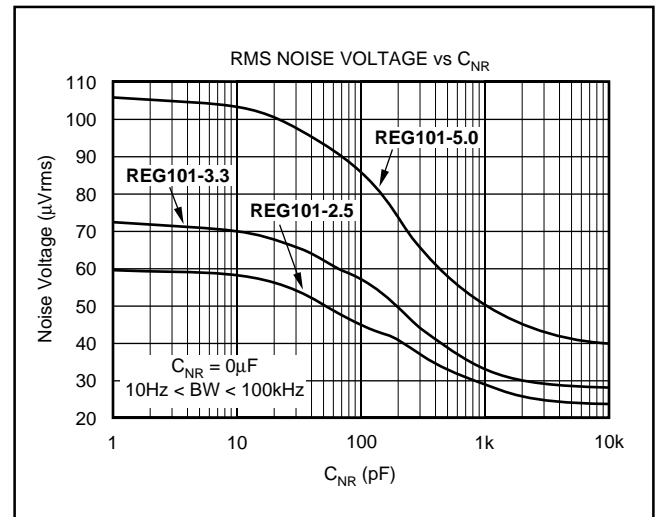
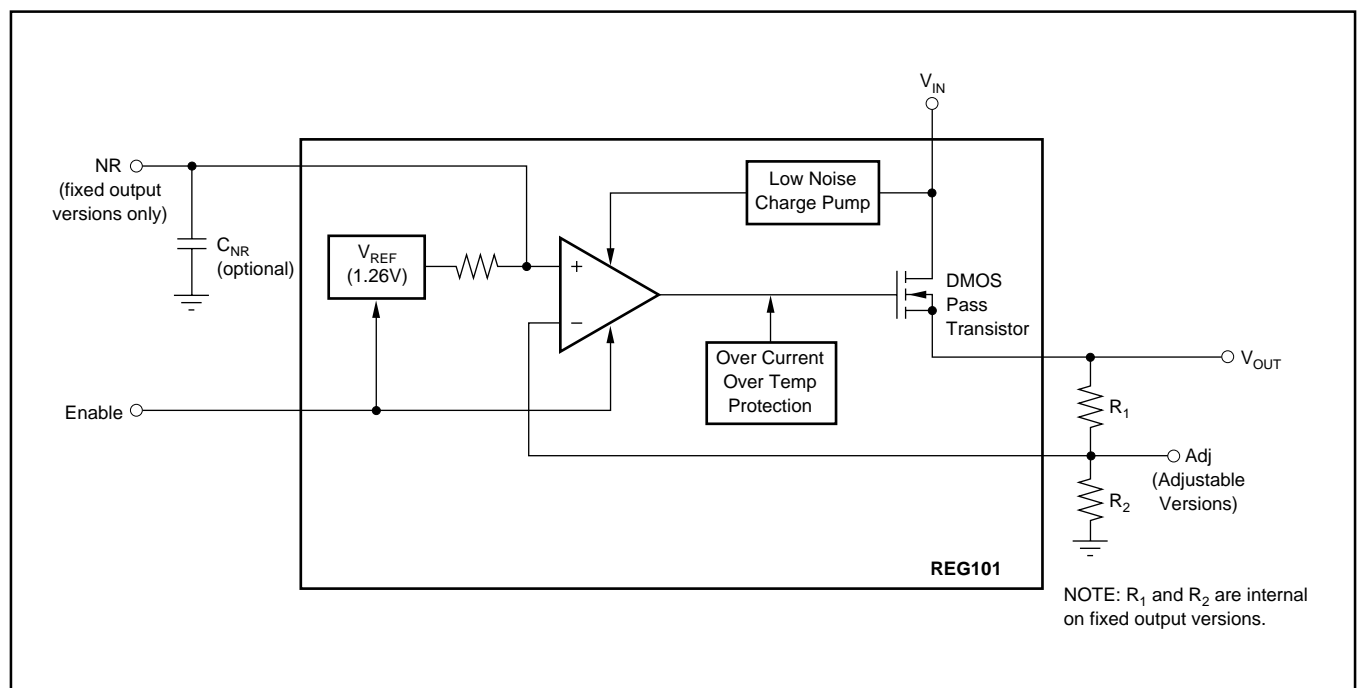

FIGURE 5. Output Noise versus Noise Reduction Capacitor.
FIGURE 4. Block Diagram.
Connecting a capacitor, C_{NR} , from the Noise Reduction (NR) pin to ground, as shown in Figure 4, forms a low-pass filter for the voltage reference. For $C_{NR} = 10nF$, the total noise in the 10Hz to 100kHz bandwidth is reduced by approximately a factor of 2.8 for $V_O = 3.3V$. This noise reduction effect is shown in Figure 5 and as "RMS Noise Voltage vs CNR" in the Typical Characteristics section.